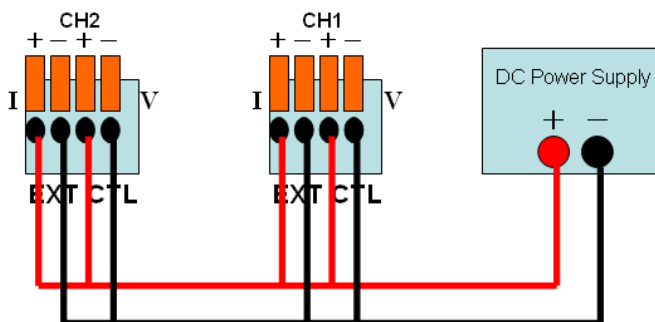

Figure 38- Dual Channel External Analog Voltage Input Calibration Setup
9. (Dual channel) For the external voltage calibration, connect the leads like Figure 38 shown below.